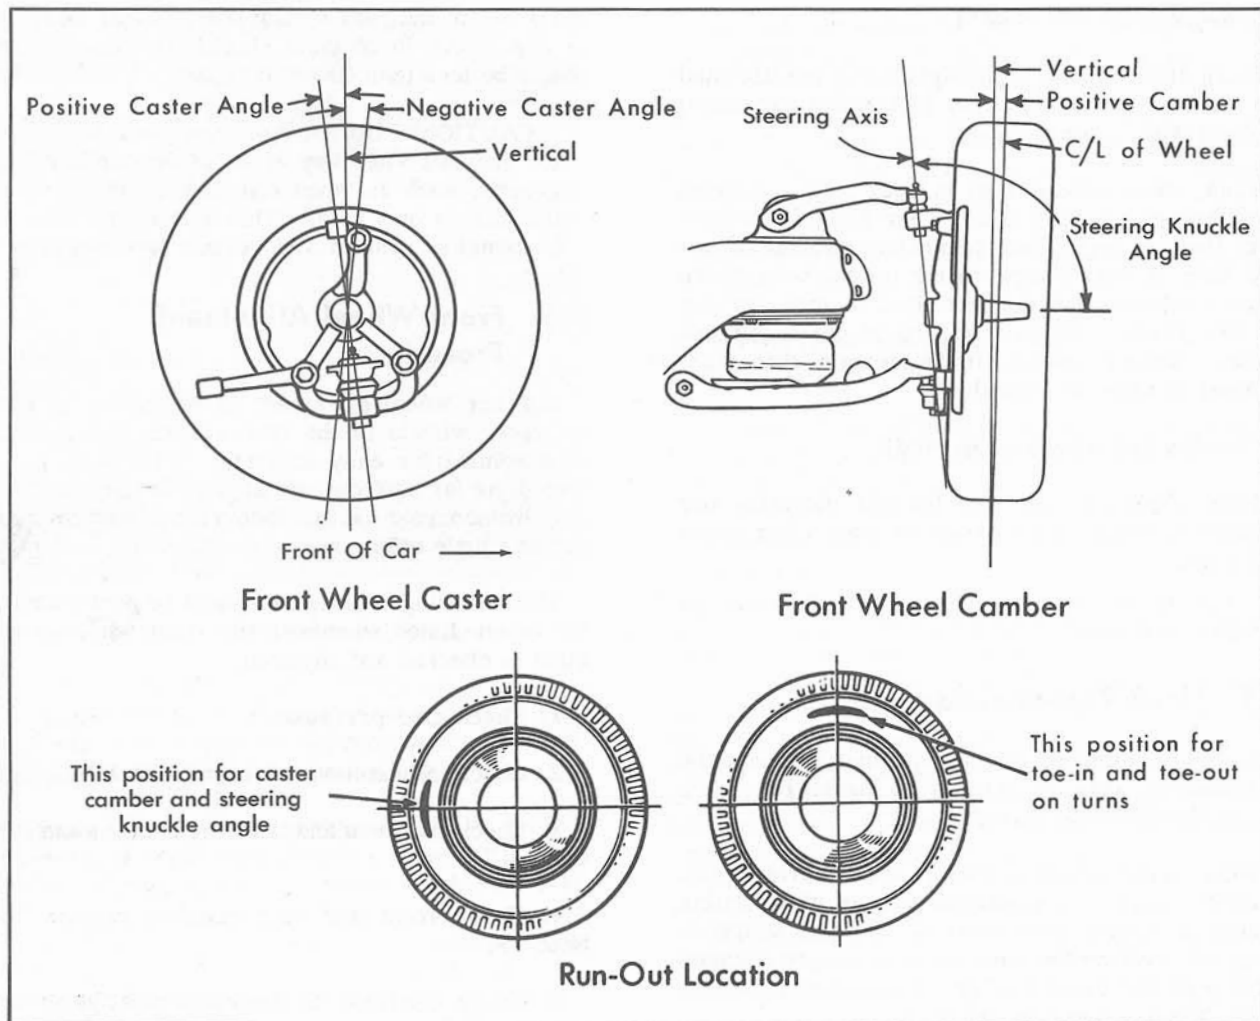

Fig. 4-7 Elements of Front Wheel Alignment
6. Place the maximum runout either to the front or rear as shown in Fig. 4-7. (This neutralizes the effect of runout on caster or camber.) Lower the front end.
9. Raise front wheels and set maximum runout at top or bottom to neutralize effect on toe-in and toe-out, Fig. 4-7.
When checking toe-in, the readings should be taken only when the front wheels are in a straight ahead position and with steering gear on its high spot. Maximum tire runout should be in a vertical plane, as shown in Fig. 4-7.